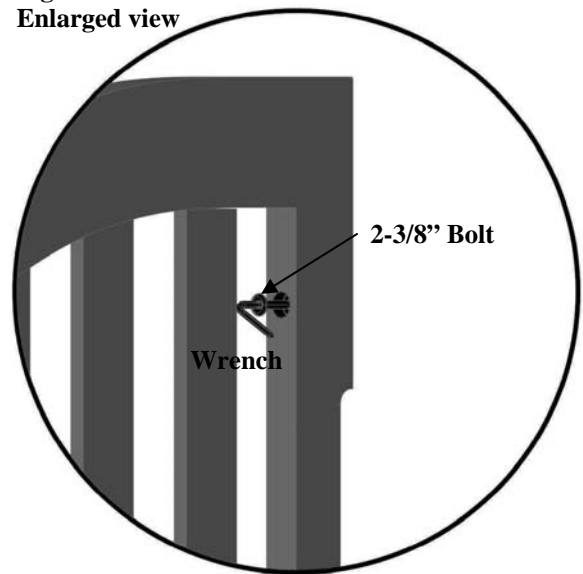

Figure 6.
- Support the headboard and attach one end section to the headboard by aligning the metal locator pin in the headboard with the bottom hole in the end section. (make sure the mattress platform brackets are to the inside of the crib). See Fig 6.